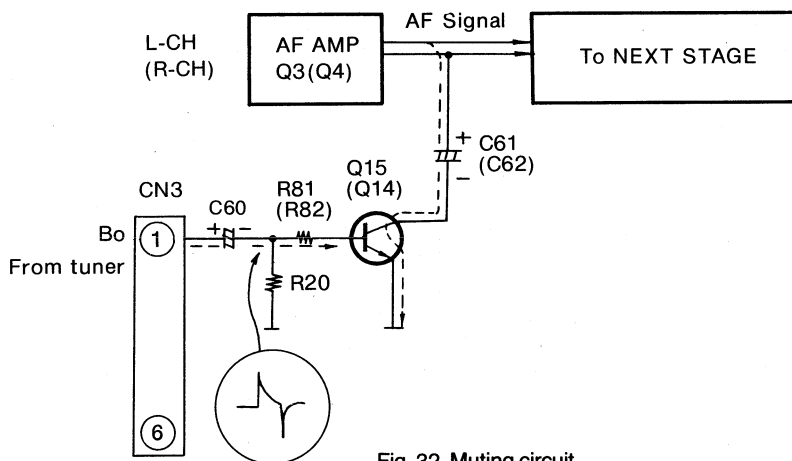

Fig. 32 Muting circuit
1. Figure 32 shows the muting circuit when power to the unit is switched ON. A voltage of 13.8 V will appear at terminal ① (Bo) of connector CN3 when power is switched ON.